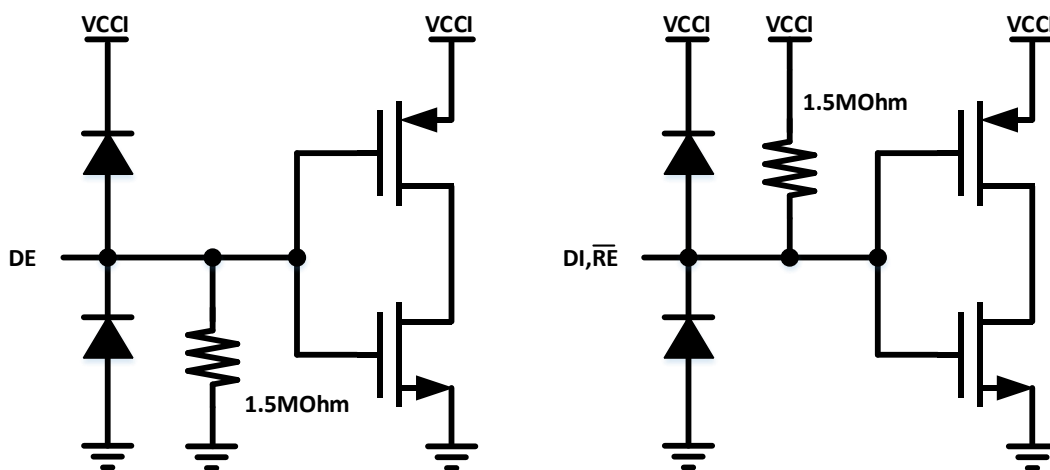

Figure 9-1. Input equivalent circuit
The CA-IS2092x devices include three logic inputs on the logic side: receiver enable, driver enable and driver digital input. The driver enable control DE pin has an internal weak pull-down to GNDA, while the digital input DI and receiver enable pins have an internal pull-up to V_{CC}/V_{CCL}, see Figure 9-1 the input equivalent circuit.
The transmitter converts a single-ended input signal (DI) from the local controller to differential outputs on the bus lines A and B. The truth table for the transmitter is provided in Table 9-2, the driver enable control DE pin has an internal weak pull-down to GNDA, see Figure 9-1 the input equivalent circuit; while the digital input DI pin has an internal pull-up to V_{CC} for CA-IS2092W or V_{CCL} for CA-IS2092VW. The driver outputs and receiver inputs on the bus side are protected from $\pm 20kV$ electrostatic discharge (ESD) to GNDB, as specified by the Human Body Model (HBM). The driver outputs also feature short-circuit protection and thermal shutdown.